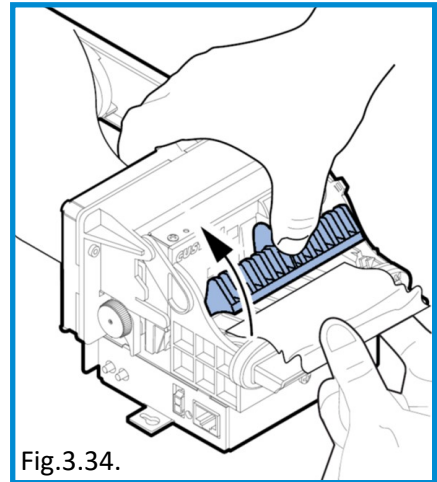

Fig.3.34.
- Raise the scroll roller release lever (Fig.3.34).